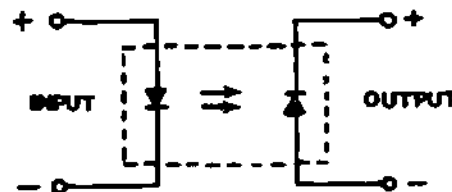

Figure 15
16. The basic optical coupler is composed of a LED and photodiode in an encapsulated housing. The LED operates with forward bias, while the photodiode uses reverse bias as shown by the polarity signs on the input/output leads in Figure 15.